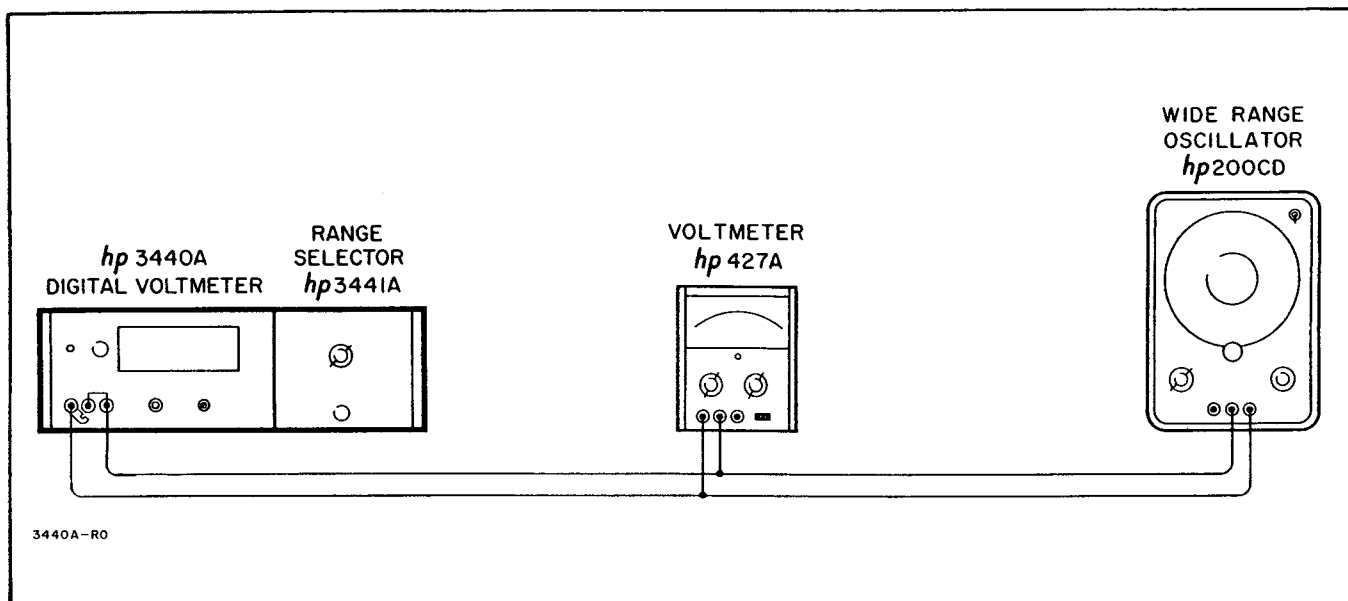

Figure 5-6. AC Common Mode Rejection Check
- a. Connect Model 3440A, ac voltmeter, and test oscillator as shown in Figure 5-6. Set 3440A RANGE to 10 V.